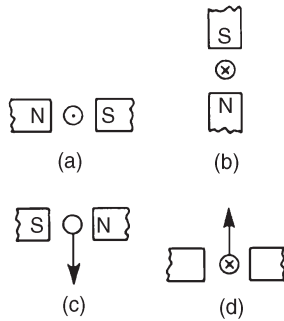

Figure 8.15
**Problem 5.** With reference to Figure 8.15 determine (a) the direction of the force on the conductor in Figure 8.15(a), (b) the direction of the force on the conductor in Figure 8.15(b), (c) the direction of the current in Figure 8.15(c), (d) the polarity of the magnetic system in Figure 8.15(d).